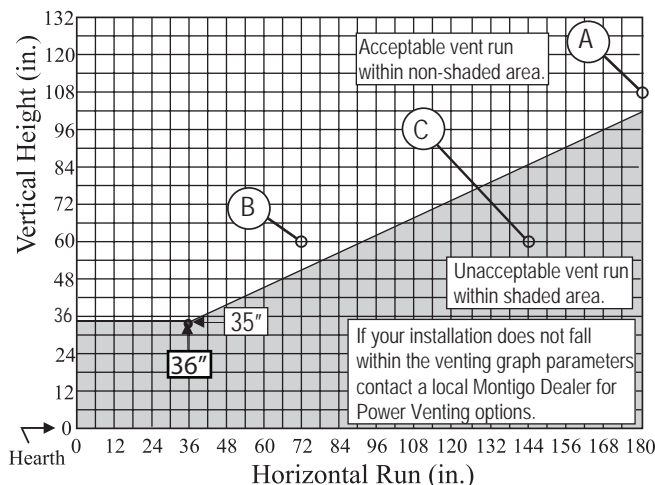

Figure 13. L38DF* Top Vent Venting Graph for wall mounted terminations.
- Once the proposed venting layout has been determined refer to Figure 13 or 15 to ensure the layout is acceptable.
- Venting runs *must* fall within the limits set by the venting graph, see Figure 13
Measure the vertical height from the fireplace hearth to the centre of the termination and the horizontal run from the fireplace flue collar to the wall flange of the termination. Plot on the Venting Graph Figure 13 with an 'X'.
Figure 13a. Top Vented, wall mounted installation with one 90° bend. The vent run must comply with Venting Graph for Top vent, wall mounted terminations, Figure 13.